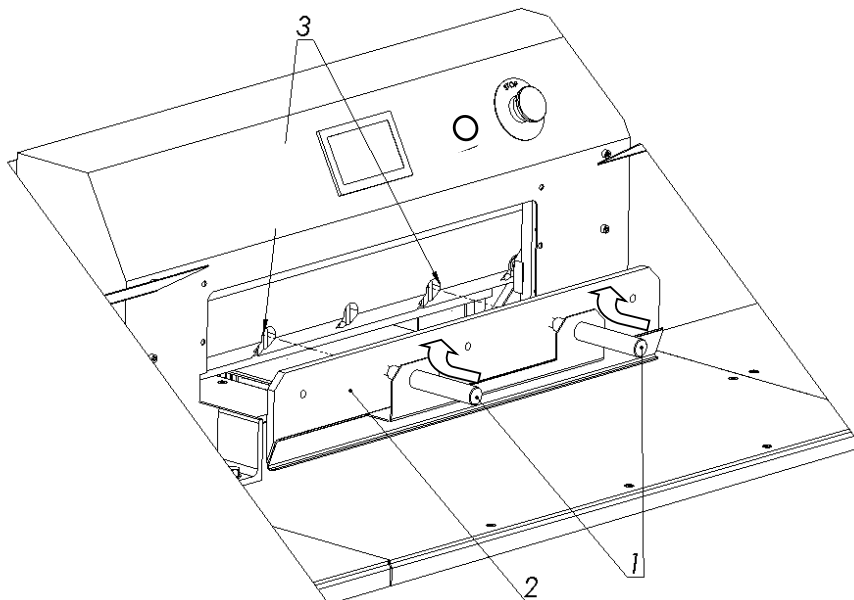

Figure 30.
**8.1.2.3.** Holding the transport handles 1, insert the knife 2 into the cutter so that the transport handles screwed into the knife hit the cutouts in the cutter bar 3. (fig.30)